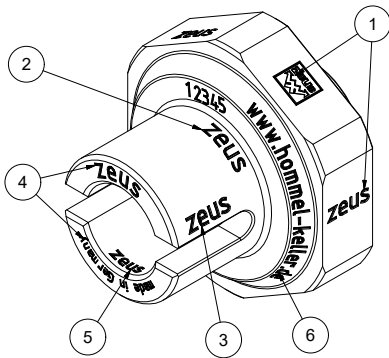

Figure 1: Area of application
Markings on faces (Fig. 1, ref. 4), cylindrical outer surfaces (Fig. 1, ref. 1), bevels (Fig. 1, ref. 3) and spherical surfaces (Fig. 1, ref. 2) are possible.
This tool type can be used modularly in front of and behind the rotation centre. If the labelling runs on a spherical surface / in an axial direction (cf. Fig. 1, ref. 2), the complete marking tool can be clamped rotated 90°.